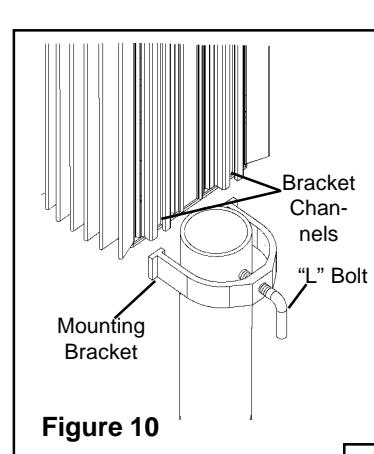

Figure 10
7. Mount the Transverter on the mast by sliding the mounting brackets and "L" Bolts into the bracket channels on the backside of the Transverter. (See Figure 10.)